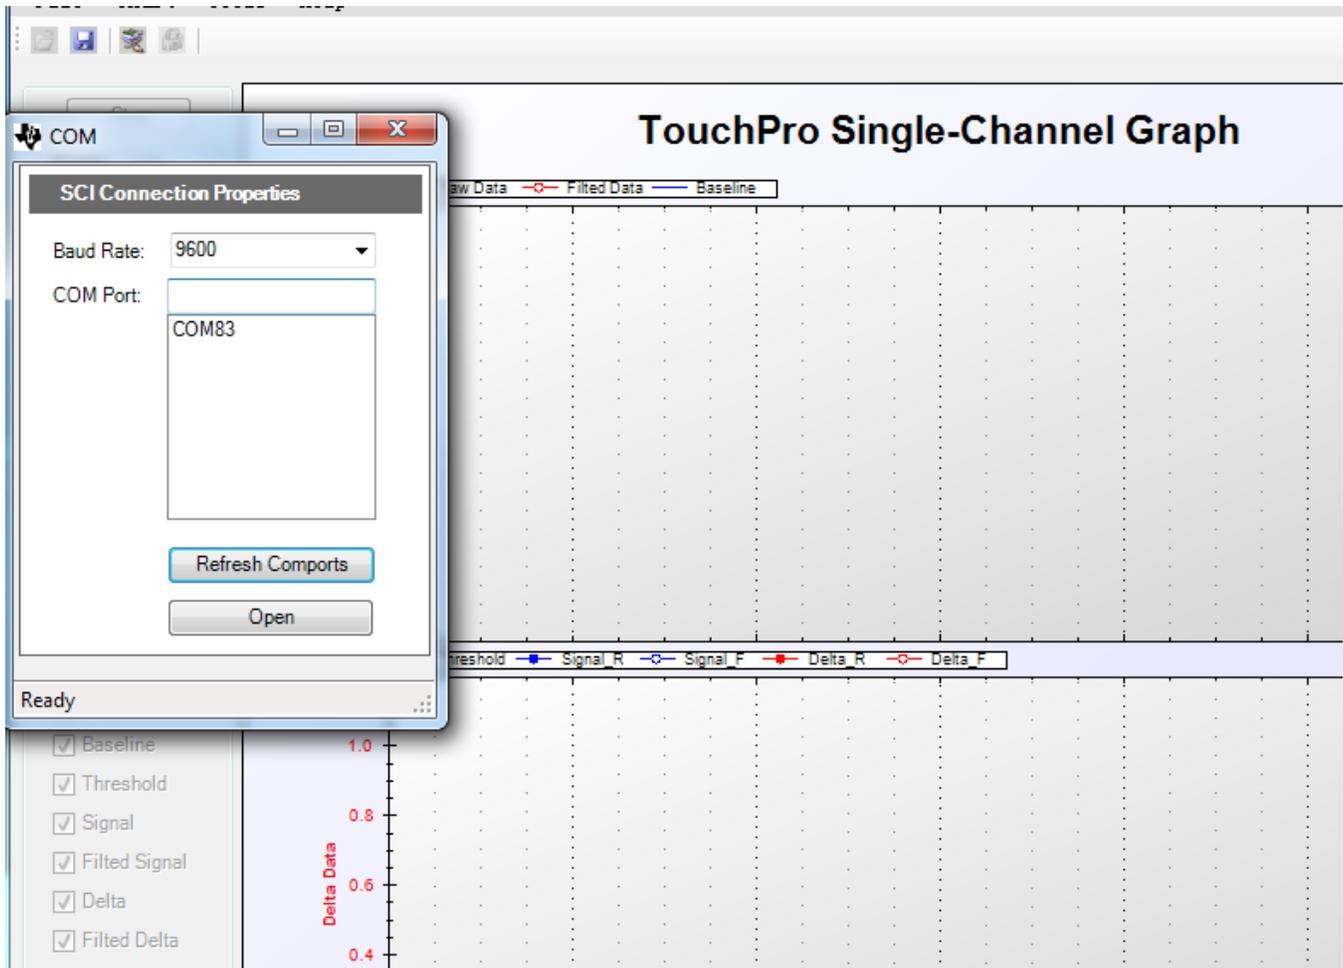

Figure 11. TouchPro Tool
6. Select the correct COM and 9600 as the baud rate (see Figure 11).